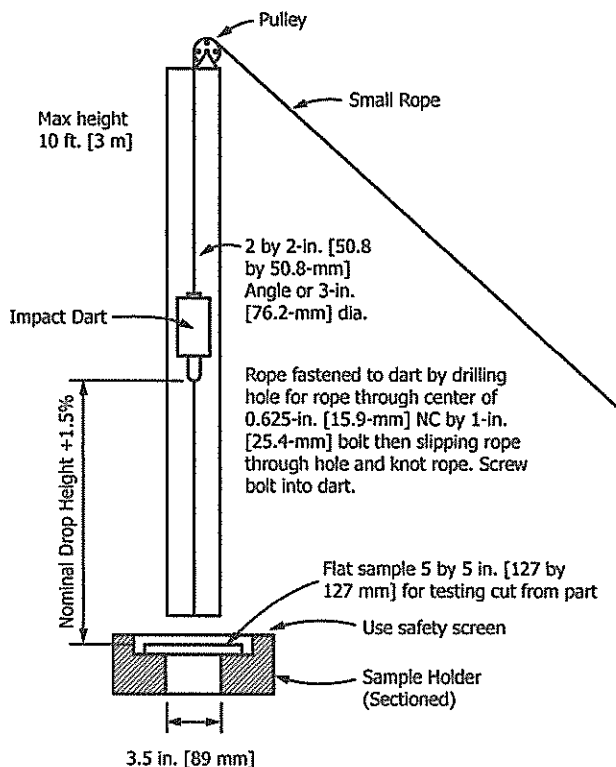
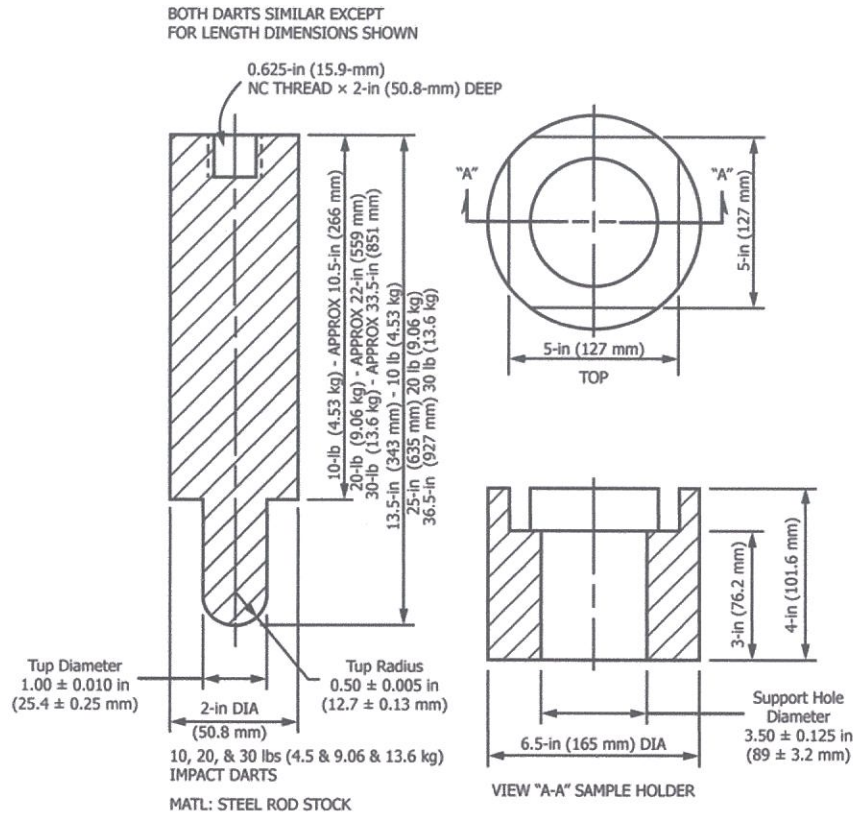

FIG. 2 Dart Drop Impact Test Apparatus
FIG. 3 Dart Drop Impact Test Apparatus
is shown in Fig. 2 and Fig. 3. The specimens are placed, inside-surface down, in the sample holder and immediately impacted from a prescribed height with a dart of specified weight and tip radius. The specimen is observed for failure on both surfaces. The test prescribes a minimum impact value that the specimen must pass.
11.3.4.1 Cut specimens to loosely fit the 127 mm by 127 mm (5 in. by 5 in.) sample holder (See Fig. 3). Specimens shall be approximately 127 mm by 127 mm (5 in. by 5 in.), or the maximum size available. In those tanks where specimens of the above size are not available, the supplier must show correlation data between the smaller size and the recommended size.
11.3.4.4 Remove specimens from the freezer or bath one at a time. Within five seconds, release the dart and impact each specimen on the outer surface. Use the impact energy specified in 8.1.1 as calculated by multiplying the nominal dart weight (known to $\pm 1\%$) by the drop height (Fig. 2). The specimen shall not fail at the specified impact energy (see 3.2.2 for the definition of failure). Whenever possible, choose a dart weight that permits the drop height to be between 0.8 and 2.3 m (2.5 and 7.5 ft) in order to minimize the effect of velocity on the result of the test.
NOTE 6—Ductile failures indicate proper molding for Type I and Type II tanks, while cracking or shattering indicates improperly molded specimens. The test apparatus is shown in Fig. 2 and Fig. 3.